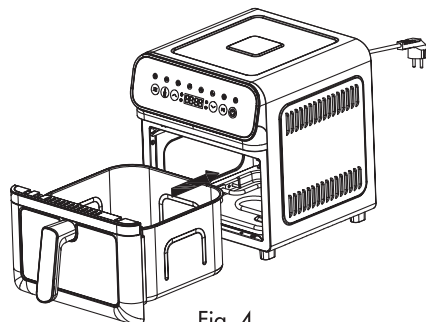

Fig. 4
4. Slide the frying pot back into the appliance, ensuring it aligns properly with the guides (Fig. 4).